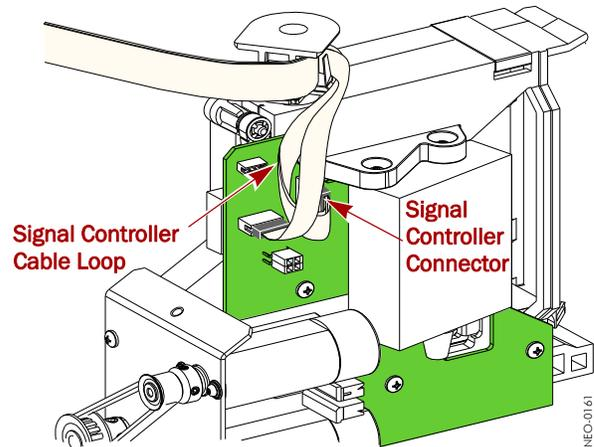

Figure 11. Connect the Shuttle Signal Controller Cable
2. Without bending the cable, carefully loop and insert the **Signal Controller cable** into the Signal Controller cable connector (Figure 11).